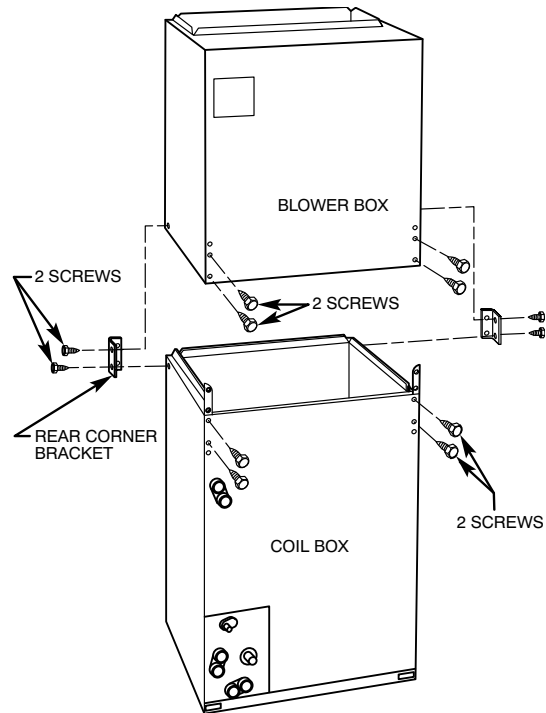

Fig. 6 – Removal of Brackets on Modular Unit
**NOTE:** Modular units can be disassembled and components moved separately to installation area for reassembly. This process accommodates small scuttle holes and limiting entrances to installation sites. (See Fig. 6.)
- b. Remove air splitter (B) from coil seal assembly by removing 3 screws. (See Fig. 6 inset)
- c. Remove filler plate (A) and install air splitter (B) in place of filler plate.
- d. Install filler plate (A) as shown in horizontal right application.
- e. Remove condensate troughs (C) and install on opposite tube sheets.